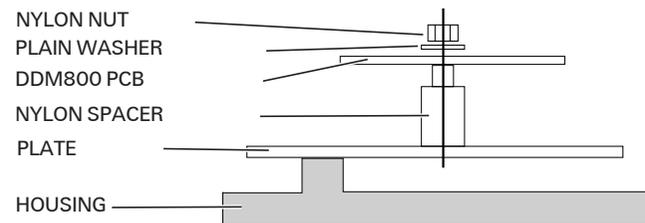

Fig. 2: ANC8 - PCB fixing detail
- 1 Assemble the required DDM800 PCBs onto the chassis plate as required, fixing as shown in Fig. 2.